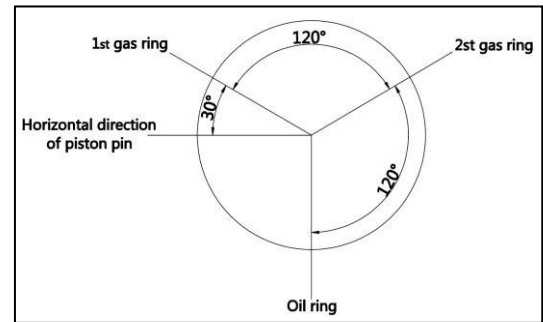
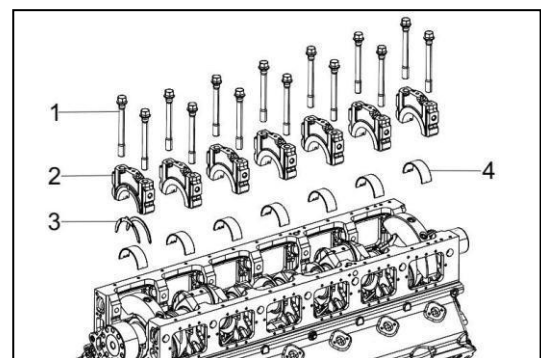

Figure 129
Figure 131
9. Stagger the piston ring end gaps at 120° intervals (Figure 129). Do not position the top piston ring end gap in line with the piston pin.
5. Place the crankshaft (Figure 131, 1) into the engine.
6. Reinstall new main bearing (Figure 131, 4) and thrust plate (Figure 129, 3) in the main bearing caps (Figure 131, 2).
7. Reinstall the main bearing caps (Figure 131, 2).